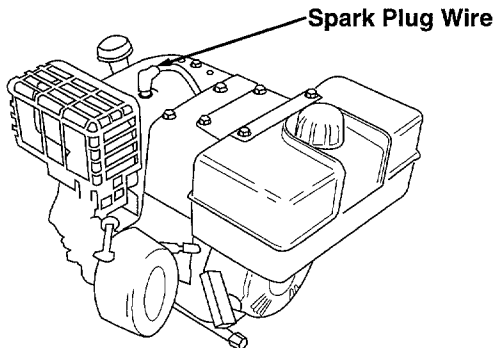

Figure 2
- Disconnect the spark plug wire and move it away from the spark plug before assembling the chipper-shredder. See figure 2.